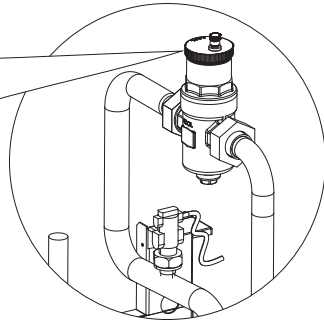

Figure 4-1: Automatic Air Vent
3. The automatic air vent in the heat pump should be open with at least 2 turns from the factory. When filling and venting is completed, **ensure this cap is left at least 2 turns open**. To access the automatic air vent in the Aerona 290, remove the top panel and when necessary the right hand panel. Refer to Figure 4-1 and section 1.11.